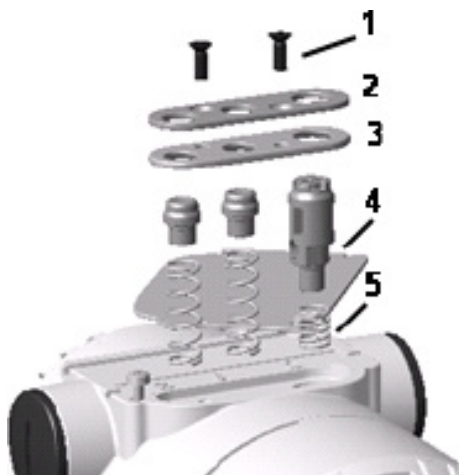

Figure 5.7 — External push button assembly components
- Loosen the push button assembly screws (1) that secure the plastic element. The element is spring-loaded.
- Remove the gaskets (3) that are positioned below the push-button plastic cover (2).
The three push buttons (4) and the relevant springs (5) can now be removed from their seat (see Figure 5.7).